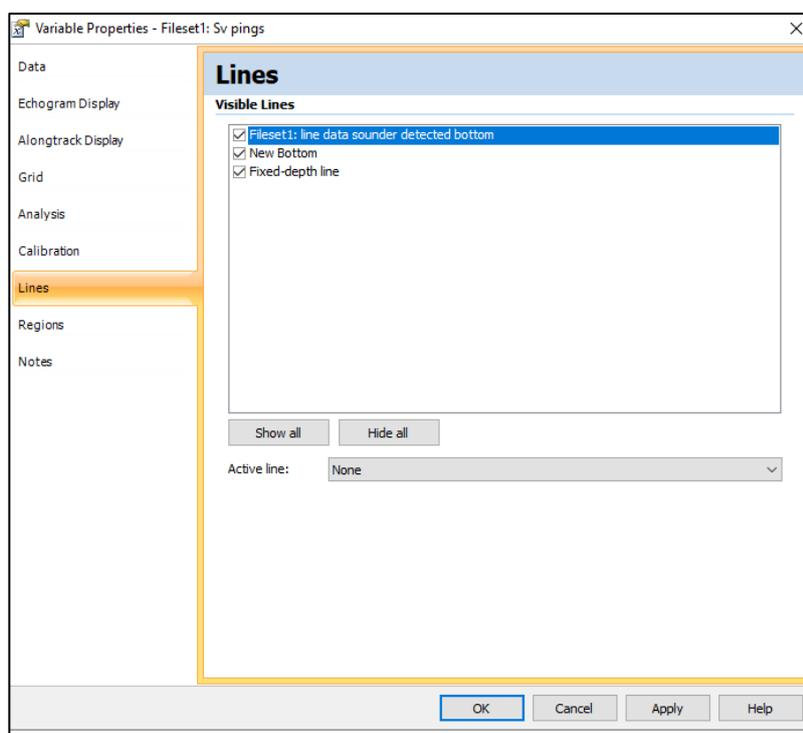

Figure 26: The Lines page of the Variable Properties dialog box.
46. Click the **Lines** tab (see Figure 26).